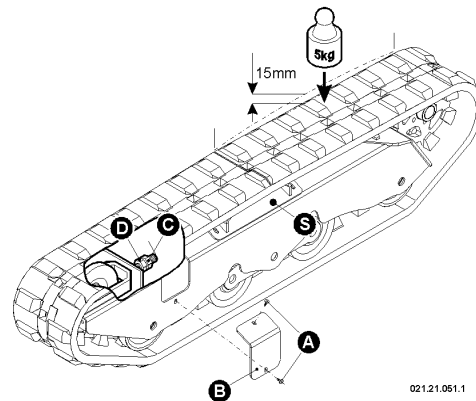

fig. 52 - Track Tension Regulation
- Make sure the arrow is 15 mm near the middle, front or back to the slide "S" of the track (see fig. 52);